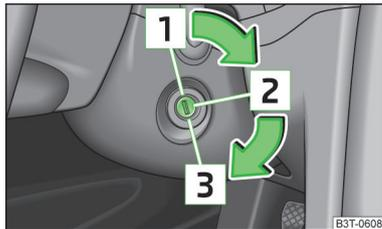

Fig. 134
- When the vehicle is travelling with the engine off, the ignition key must always be in position 2 » Fig. 134 on page 139 (ignition switched on). This position is confirmed by the appearance of certain indicator lamps in the instrument cluster.
- The starter must only be operated when the engine is not running and the vehicle is at a standstill. The starter or engine can be damaged if the starter is activated when the engine is running 3 » Fig. 134 on page 139.
Petrol engines » Fig. 134
Diesel engines » Fig. 134
If the **steering is locked** and the key cannot be turned or can only be turned with difficulty to position **2** » Fig. 134, move the steering wheel back and forth and the steering lock will unlock.
➤ Switch on the ignition **2** » Fig. 134 on page 139.
Switch off the engine by turning the ignition key to position  » Fig. 134 on page 139.